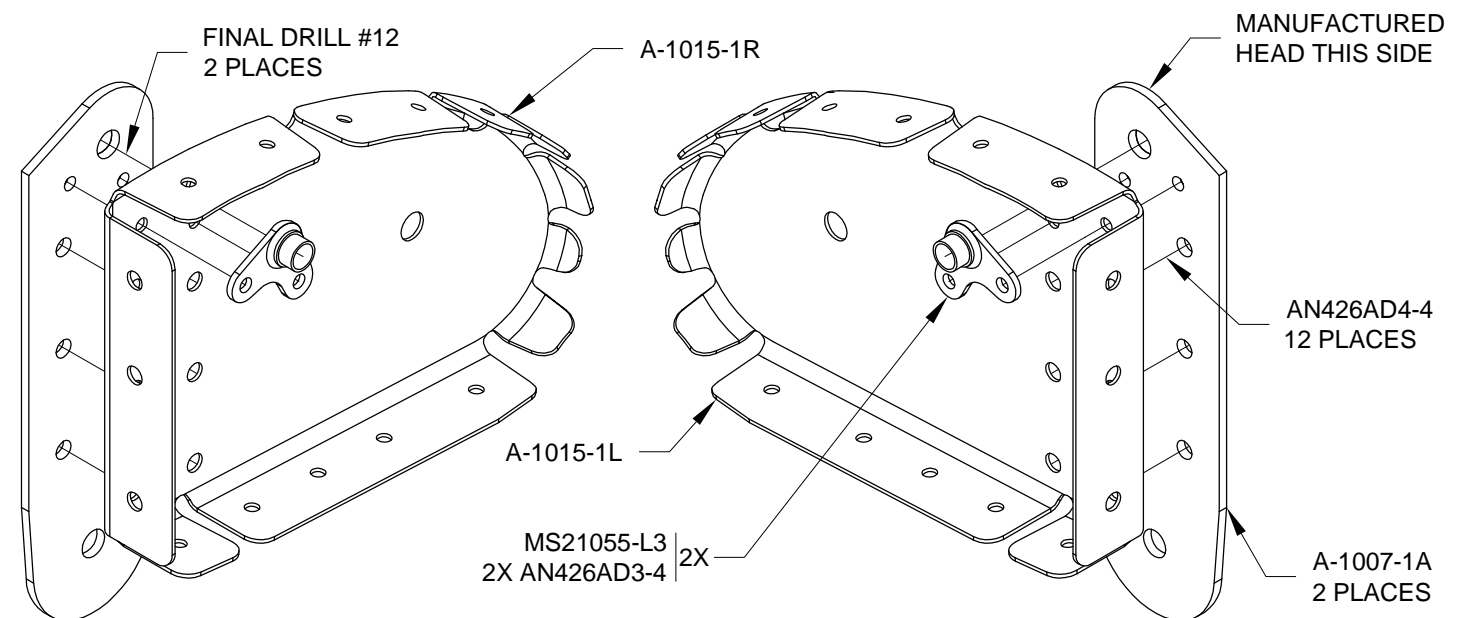

FIGURE 4: INBOARD HINGE BRACKET TO NOSE RIB INSTALLATION
Step 5: Final-Drill #30 the .129 [3.3 mm] holes common to the A-1007-1A Inboard Hinge Brackets and the A-1015-1L and A-1015-1R Ribs. Machine countersink the inboard hinge bracket for the head of an AN426AD4 Rivet and deburr. See Figure 4.
Step 7: Rivet the A-1007-1A Inboard Hinge Brackets to the A-1015-1L and A-1015-1R Ribs with the rivets as shown in Figure 4. Install the nutplates as shown in Figure 4.